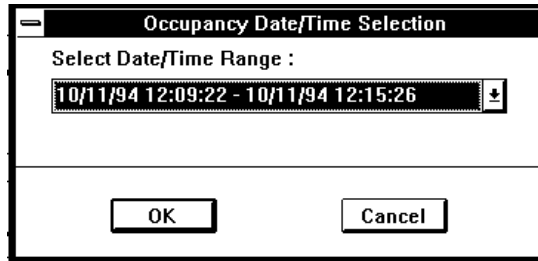

Figure 8-8: Filled Occupancy Date/Time Selection Dialog Box
- Using the **Arrow Button**, choose from the list of date/time measurement events the date and interval that you want to view. By clicking on the event, the event parameters will appear in the **Select Date/Time Range** box (Figure 8-8).